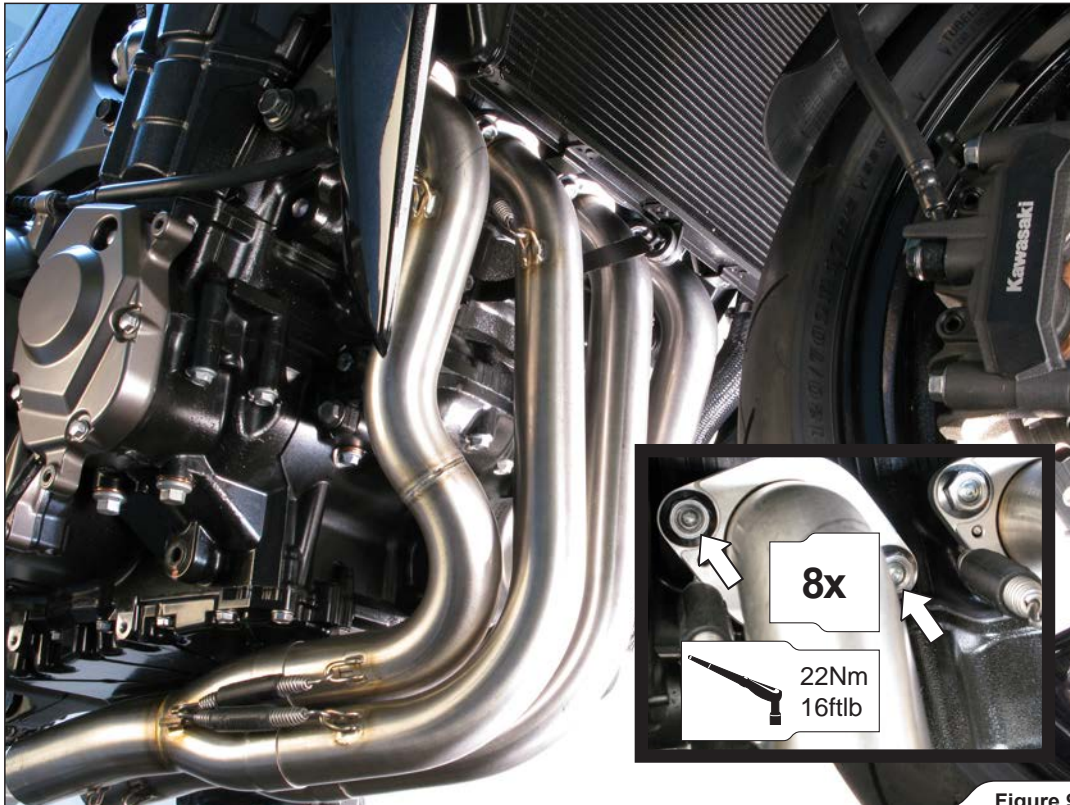

Figure 9
2. Insert the headers into the sleeves, attach the springs and tighten the flanges to specified torque (**Figure 9**).